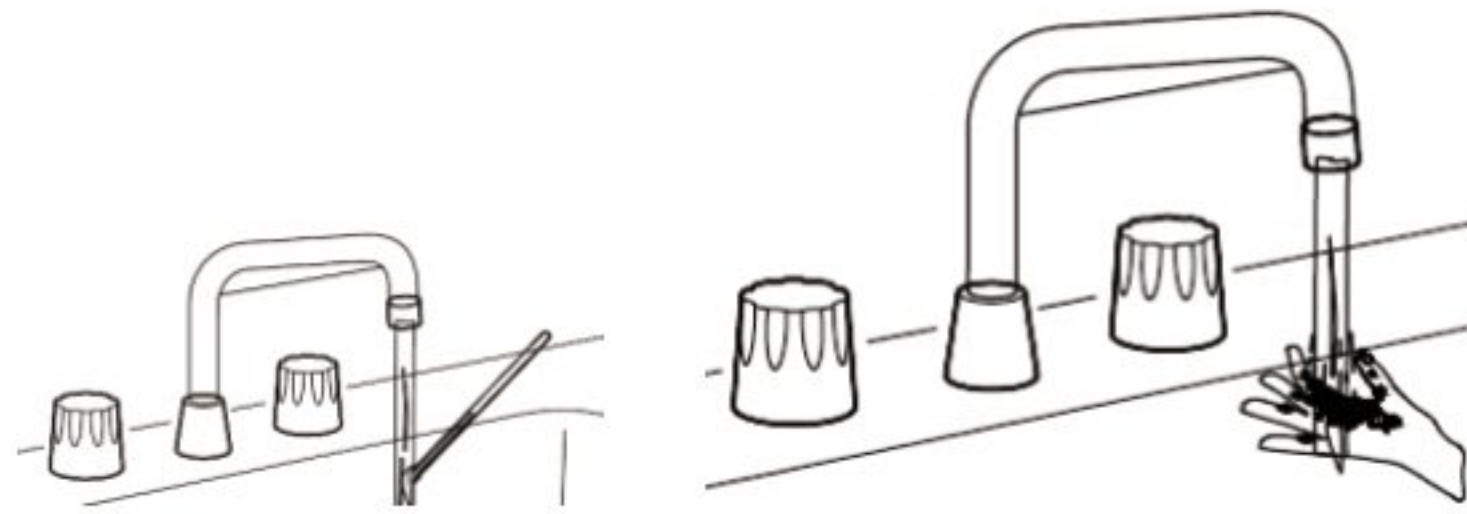

Figure 4
**WARNING:** According to Safety Information on Page 4 to 5, please always check outlet water temperature by hand or by thermometer (refer to Figure 4) every time before using the hot water for sanitary purposes to avoid scalding and injury.